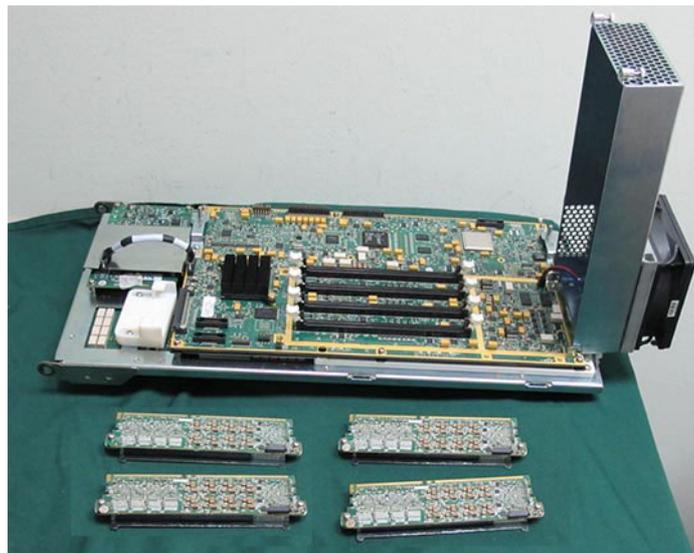

Figure 8-186 All TRX32 Boards Removed
- 5.) Repeat step 4 to remove each of the remaining TRX32 Boards - Figure 8-186.